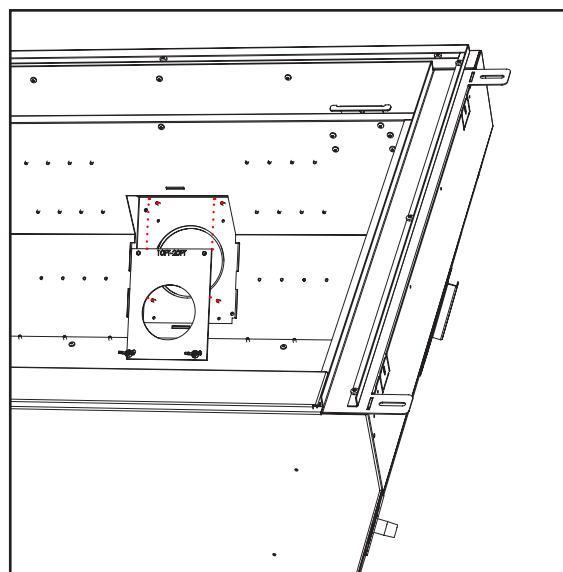

Figure 25c.
Wingnuts are to be used on the bolts that protrude from the bottom of the plate. seen in figure 25c.
- Step 6.** Fasten wingnuts to the bottom bolts only. Fig.25c